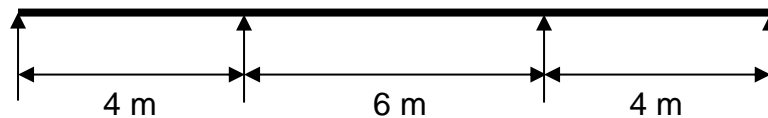

Figure 1/Rajah 1
- (1). A continuous beam shown in **Figure 1** has a constant cross section and supports a uniformly distributed permanent action including its self-weight of 20 kN/m and a variable action of 10 kN/m. The cross section of beam at mid-span is 200 mm width by 300 mm depth and reinforced by 3H16 of tension and 2H12 of compression reinforcements. The concrete cover for the beam is 30 mm. The yield strength of the steel reinforcement and compressive strength of concrete are 500 N/mm² and 30 N/mm², respectively.